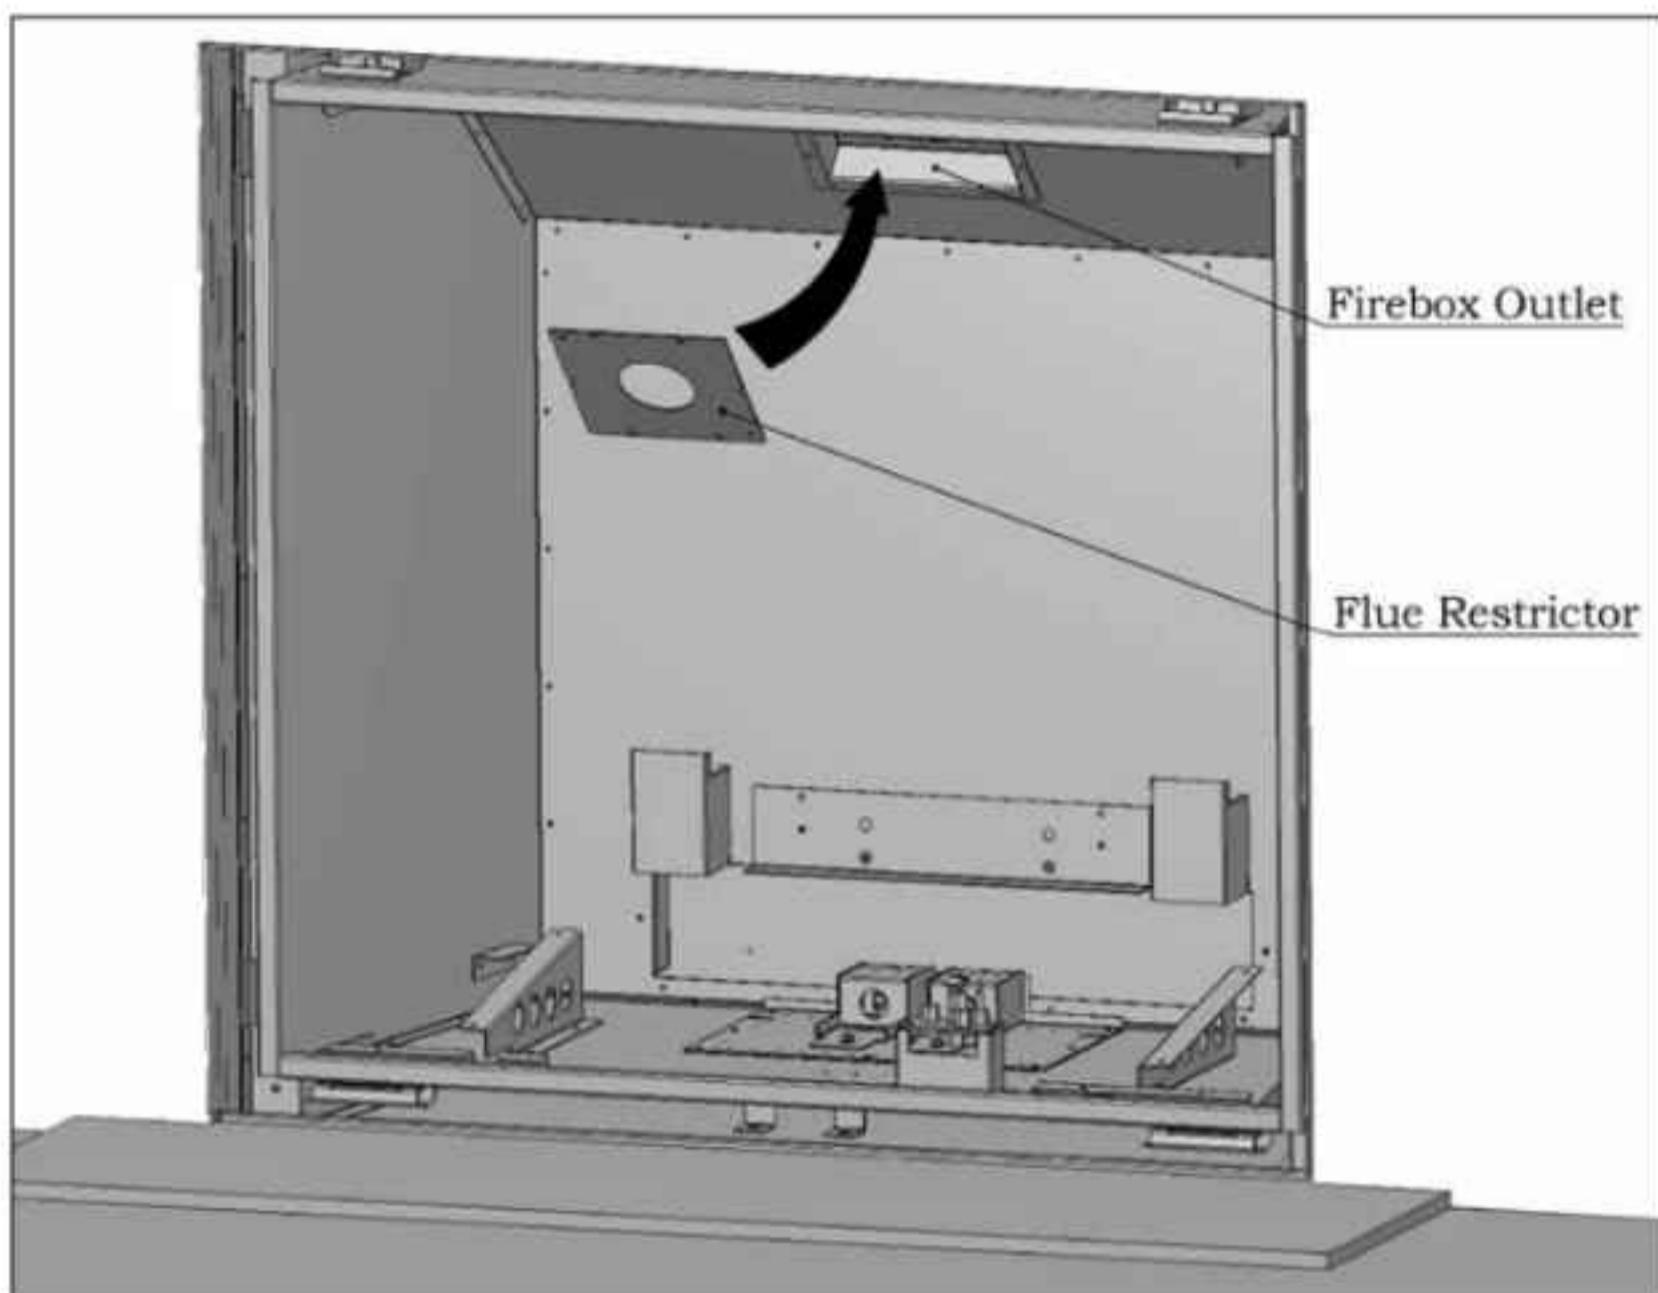

Figure 25: Installation of Flue Restrictor.
- 5) Using the two (2) $\frac{1}{4}$ " T-20 screws provided with the restrictor, fasten the Restrictor into the Flue Outlet as shown in Figures 25 & 26. Make sure the diagonal holes line up with the diagonal holes located in the Flue Outlet Box. Use a powered driver to drive the screw in. Be careful not to over-torque the screw and strip the threads.